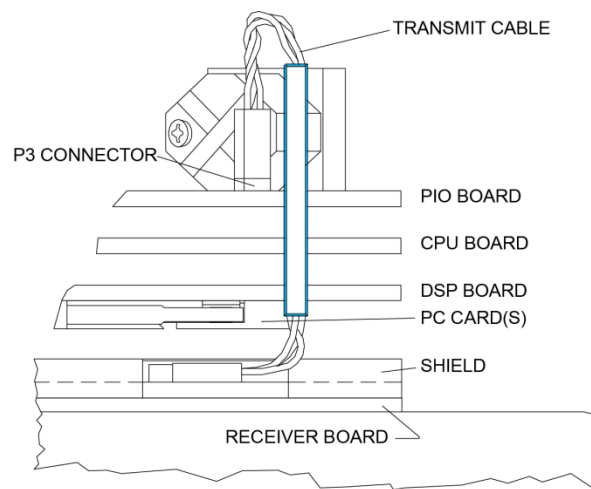

Figure 25. Transmit Cable
3. Note the orientation of the transmit cable connector as it is plugged into the PIO board and to the Receiver board (see Figure 25).